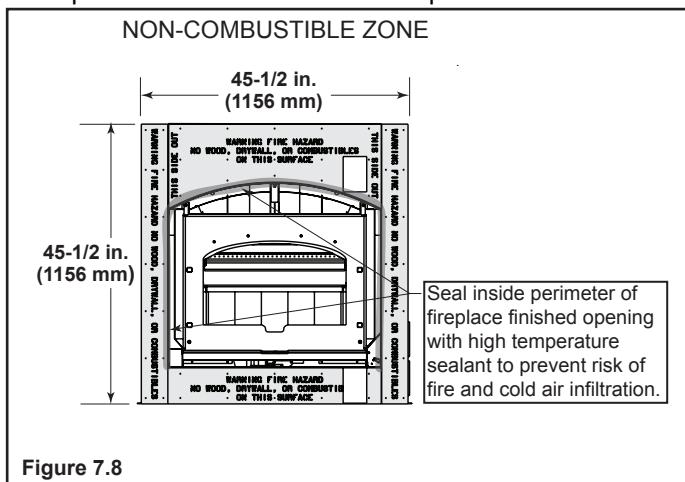

Figure 7.8
- A bead of Super Calstick or equivalent 1000°F high temperature sealant must be used to close off any gaps at the top and sides between the fireplace and non-combustible facing (Figure 7.8) to prevent cold air leaks and the risk of fire. Large gaps can be bridged with fiberglass rope gasket.